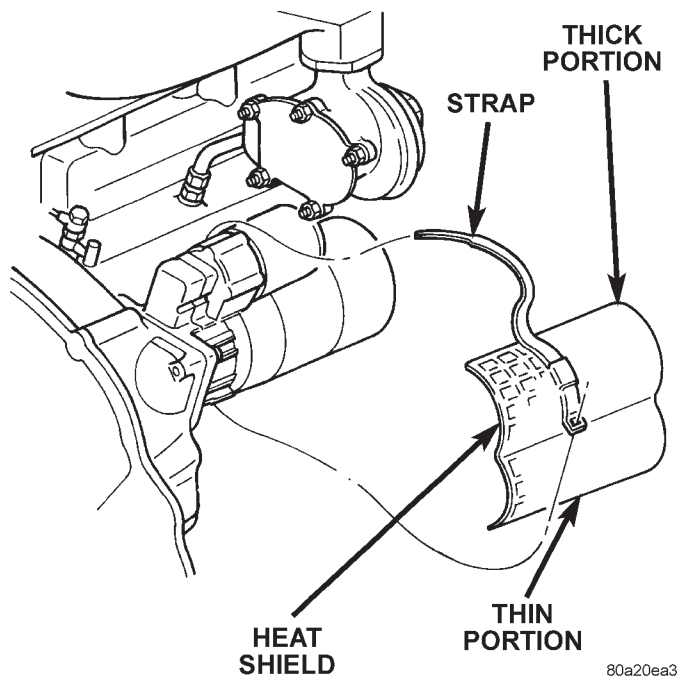

Fig. 2 Starter Heat Shield Remove/Install
- (5) Remove the strap that secures the starter heat shield and remove the heat shield from the starter (Fig. 2).
- (6) Remove the three bolts that secure the starter mounting flange to the transmission adapter plate.
- (7) Lower the starter far enough to access and remove the wire harness connections from the solenoid.
- (8) Remove the starter from the vehicle.
- (9) Reverse the removal procedures to install.